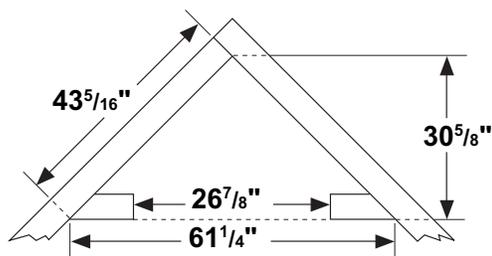

Figure 8 - Rough Opening for Installing in Corner
1. Frame in rough opening. Use dimensions shown in *Figure 7, Page 11*, for the rough opening. If installing in a corner, use dimensions shown in *Figure 8, Page 11*, for the rough opening. The height is 26-7/8" which is the same as the wall opening above.